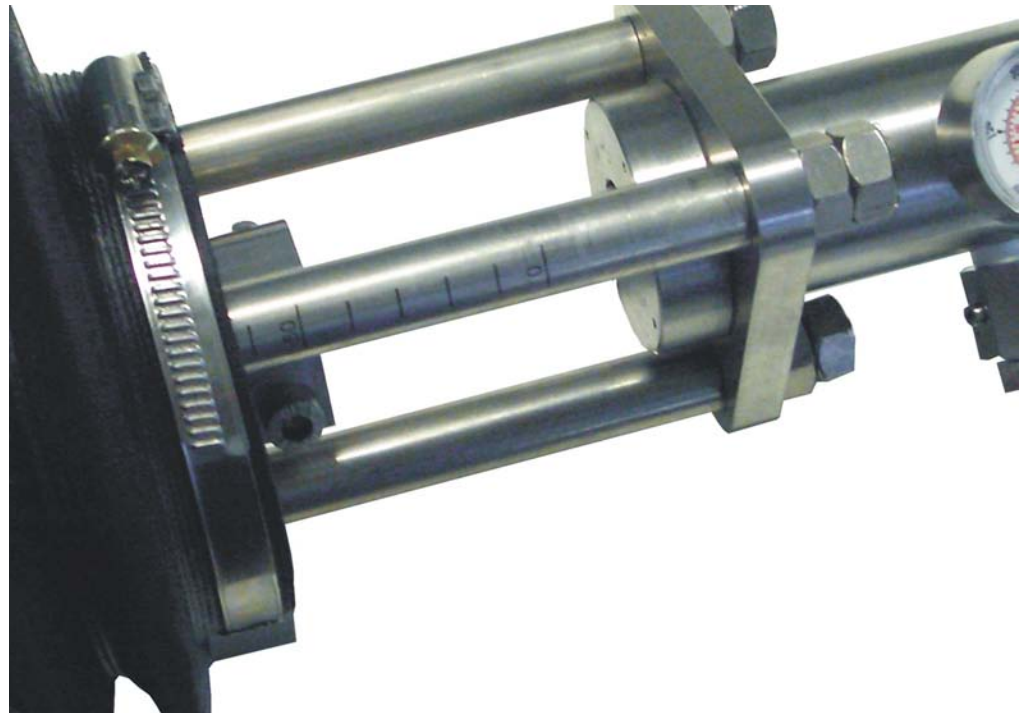

Fig. 2.8: Scaling at the spindle assembly
A scaling with 10 mm steps (see **Fig. 2.8**) is marked at the spindle assembly (5) for the adjustment of the retraction lengths. The required retraction lengths can be seen in the following table.